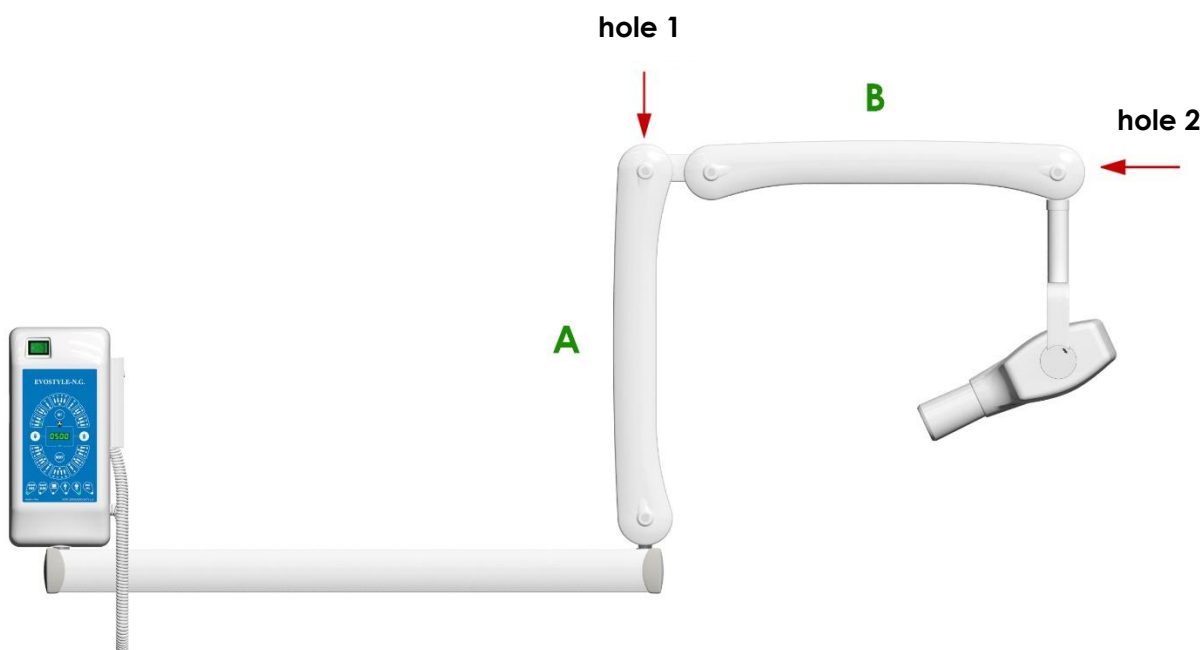

fig.11
- ✓ In the case in which the double pantograph arm does not remain stationary in all positions wanted by the user, it means that requires some adjustments. The calibration must be performed as follows: with reference to fig. 11, if it was found that the section A is spread when the double pantograph tends to go back, it means that the spring is too tight and in this case we must unscrew slightly the push-spring nut through the socket wrench supplied. To do this, tilt the section A of about 15 ° and insert the socket wrench into the hole 1 and unscrew slightly.